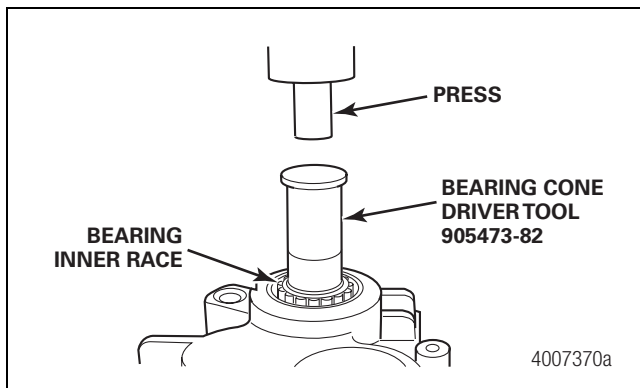

Figure 6.19
5. Use a bearing cone driver, tool number 905473-82, and a press to press the bearing down on the shaft until it is fully seated. Press only on the inner race of the bearing during installation. Figure 6.19.